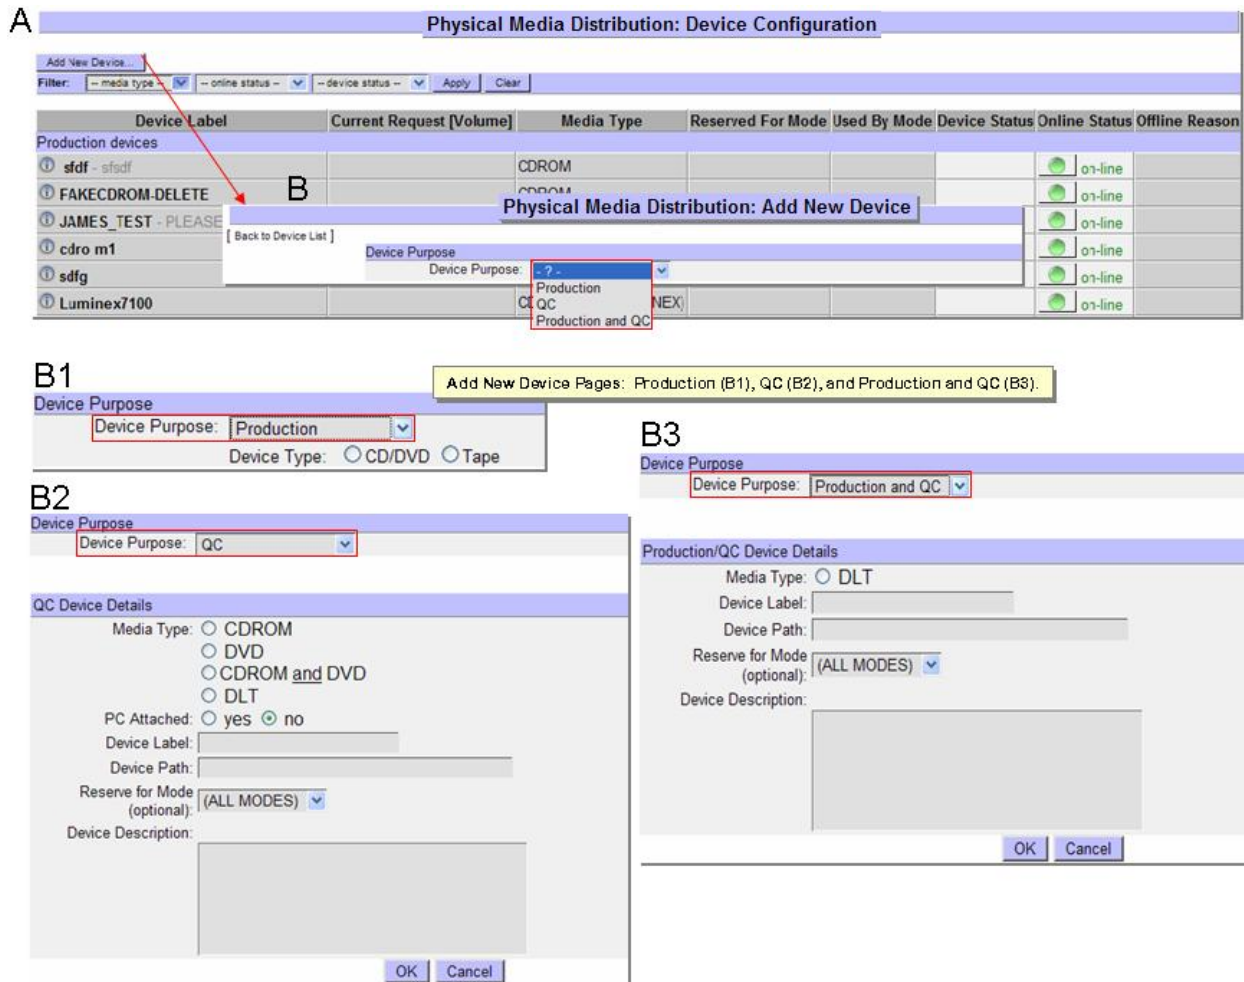

Figure 15.12-14. Frames B-B3 Add New Device Pages
- Click the **Add New Device...** button, at top of the **PMD: Device Configuration** page (Figure 15.12-14, Frame A).
- The **PMD: Add New Device** page (Figure 15.12-14, Frame B) displays.
- If **Production** selected, the **Device Type** options (Figure 15.12-14, Frame B1) are available for selection:
- If **QC** selected, several options and input fields (Figure 15.12-14, Frame B2) are available:
- If **Production and QC** selected, several options and input fields (Figure 15.12-14, Frame B3) are available: